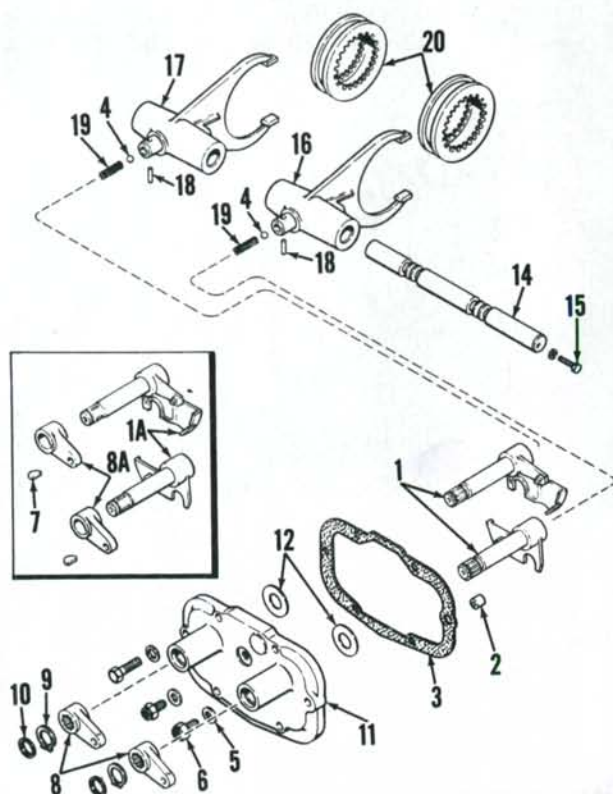

Fig. 176—Exploded view of shifter forks and shafts of gear transmission on Model 2390, 2590, 2394 and 2594 power shift tractors.
157. REMOVE AND REINSTALL SHIFT RAIL AND FORKS. Shift rail (14—Fig. 176) must be removed before shifter forks (16 and 17) can be removed.
Tractor must be split as outlined in paragraph 142 to gain access to shift rail. Remove power shift and mainshaft as an assembly as outlined in paragraph 143. Remove lube line for countershaft. Remove small cap screw (15—Fig. 176) in power shift carrier which holds shift rail, before removing power shift assembly. Drive out pins (18) and remove detent balls and springs. With power shift and mainshaft assembly removed, reinstall cap screw in shift rail, turn rail 90 degrees clockwise and pull out of transmission, using cap screw to extract rail.
It is not necessary to split tractor if only shifter shafts and housing are being serviced. Drain transmission and refer to Fig. 176. Disconnect shifter cables from shift levers, disconnect wires from neutral start switches and remove cap screws retaining housing (11). Pull housing and shaft assembly as a unit from transmission.